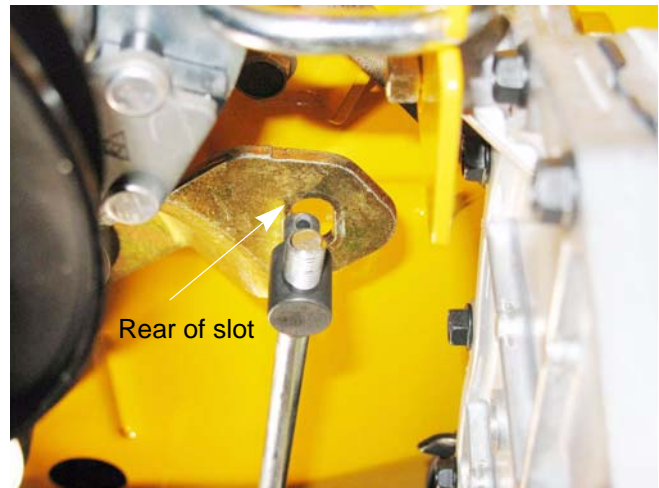

Figure 4.23
5. Adjust the ferrule so that it lines up with the rear of the slot and slides in without pulling on the spring. See Figure 4.23.